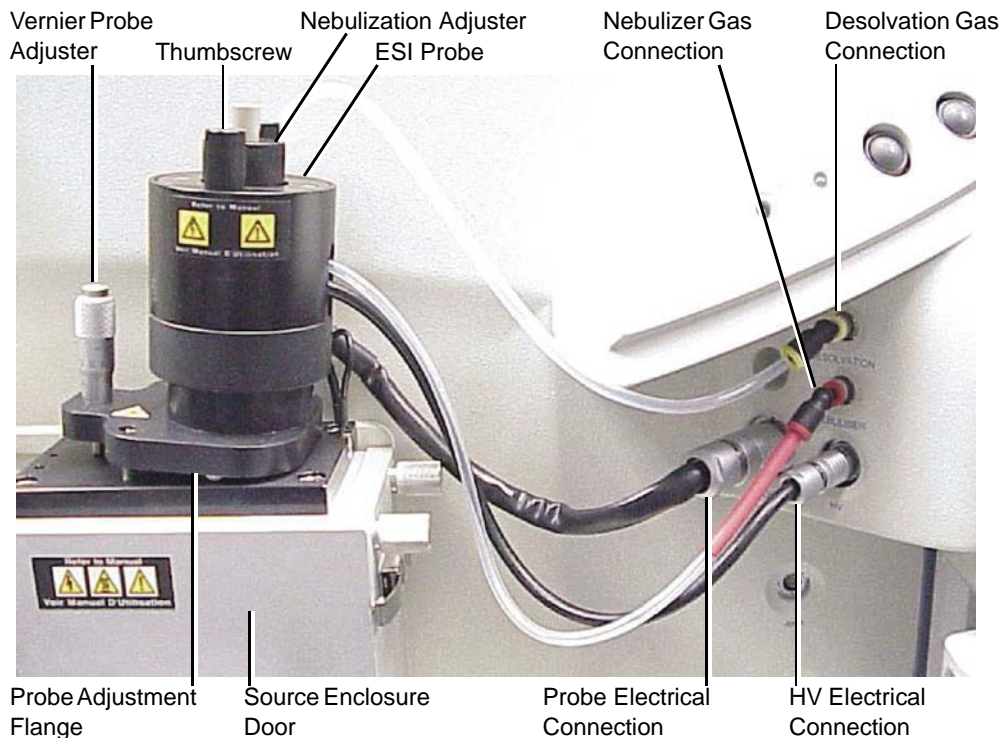
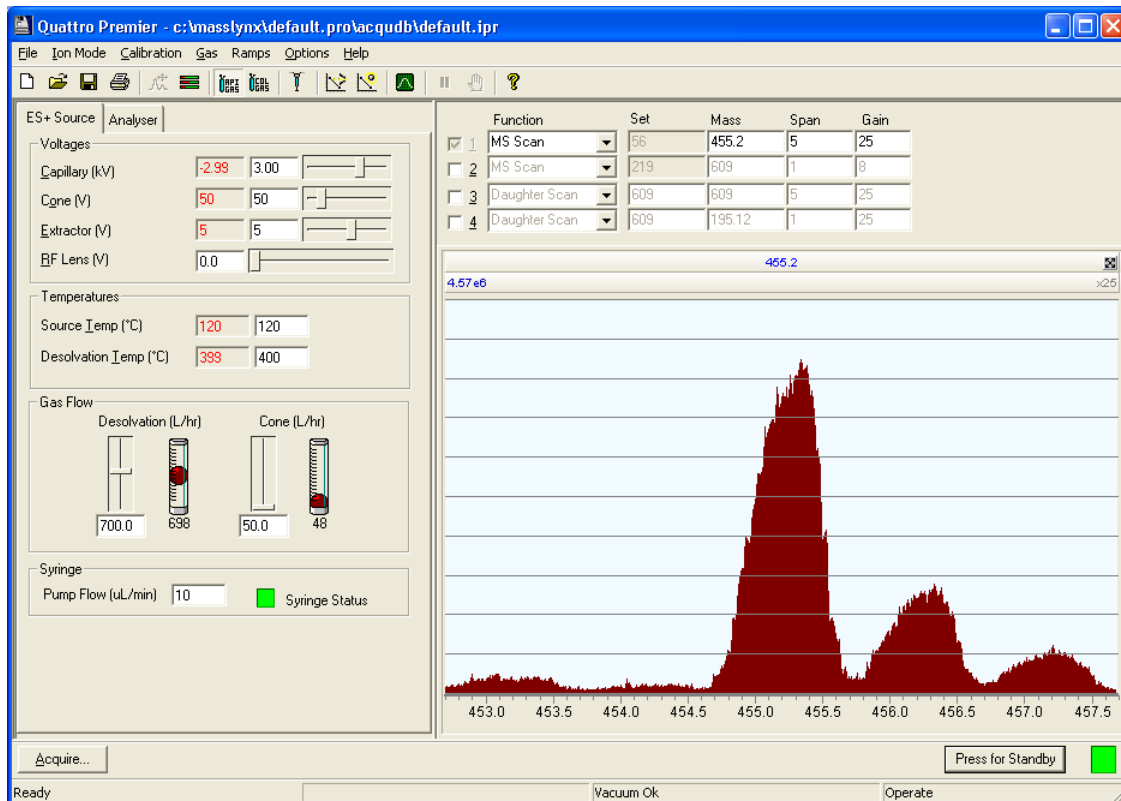

Figure 2-2 ESI Probe Mounted on the Source Enclosure, Showing the Connections to the Front Panel
Figure 2-6 Tune Window with a Verapamil Peak
5. Secure the probe by tightening the two thumbscrews (Figure 2-2).
20. Observe the verapamil peak at m/z 455.2 ($M+H^+$) in the Tune window (see Figure 2-6).
21. Use the vernier probe adjuster, on the probe mounting flange (see Figure 2-2), to maximize the displayed peak intensity.
23. Use the nebulization adjuster, on the probe (see Figure 2-2), to give the best displayed peak intensity and stability.
27. Starting from a value of 15, increase the Cone (V) voltage in increments of 2. Set the cone voltage to the value giving the highest displayed peak intensity. Record this value.
28. Starting from a value of 0, increase the Extractor (V) voltage in increments of 1. Set the extractor voltage to the value giving the highest displayed peak intensity.
29. Adjust the RF Lens (V) voltage to the minimum value that maintains the highest peak intensity, without loss of resolution.
- Confirm that the displayed peaks have the correct resolution (the isotopes are resolved as shown in Figure 2-6). If necessary, adjust the Analyser page LM Resolution 1, HM Resolution 1, and Ion Energy 1 slider bars to achieve optimum resolution [typically 0.75 Da full width at half maximum (FWHM)].
- In the Tune window, determine the m/z value of the peak's center, to one decimal place (Figure 2-6). Record this value.